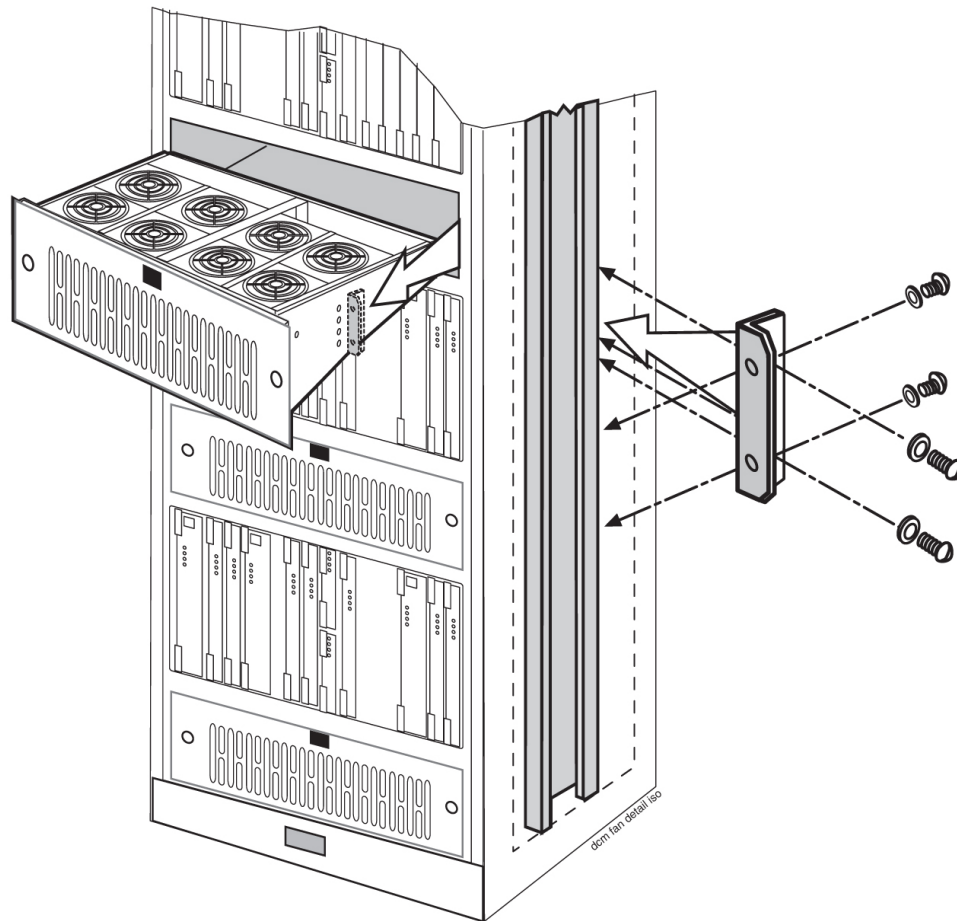

**Figure 93: Fan Assembly with Grill and Filter**
1. Determine where the fan assembly will be installed and be aware of hardware that needs to be retained or installed in a specific way, see *Figure 93: Fan Assembly with Grill and Filter*.